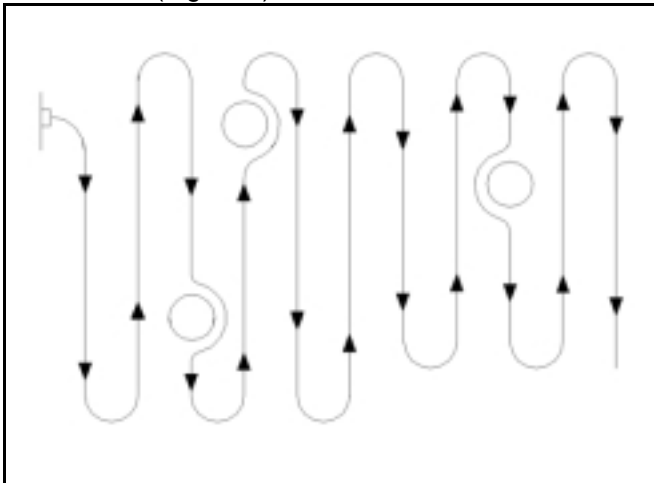

Figure 6
1. Begin mowing near the electrical outlet and work outward (Figure 6). Mow back and forth.